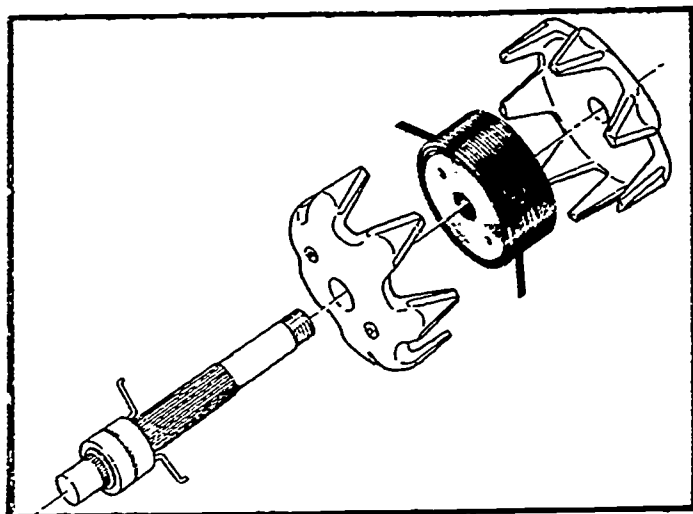
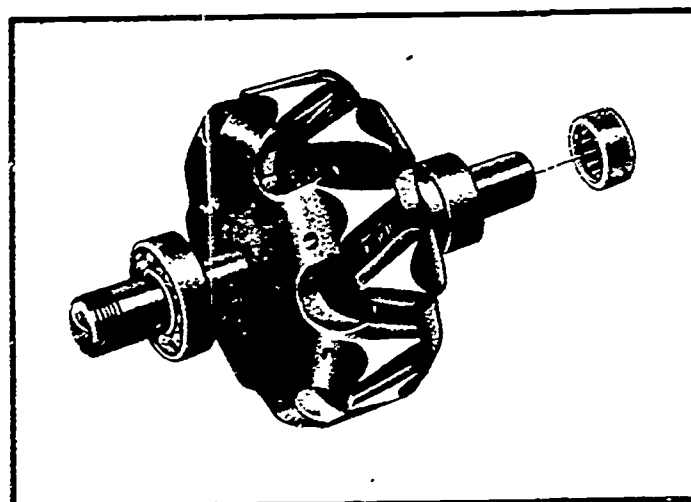

Fig. 1 Rotor components
Fig. 2 Rotor assembly
**THE ROTOR ASSEMBLY** -- The ROTOR ASSEMBLY consists of the field winding, two iron segments with interlacing fingers called "poles", the shaft and two slip rings. See Figure 1. When these parts are assembled by a press fit onto the shaft, the rotor assembly is completed. The rotor is supported by prelubricated bearings at each end of the shaft, a ball bearing at the drive end frame and a roller bearing in the opposite end frame; see Figure 2.